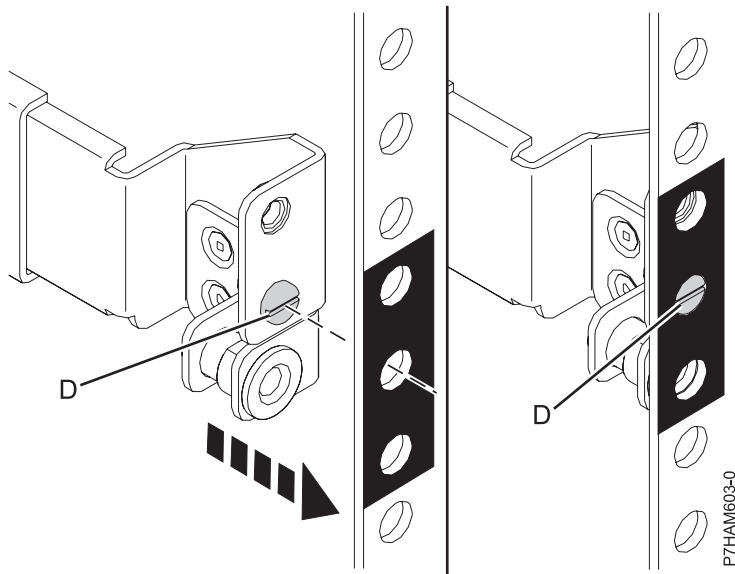

Figure 6. Mounting the rail to the rear of the rack
- e. Seat the alignment screw (D) of the rail into the middle EIA hole that you marked previously, as shown in Figure 6 on page 8.